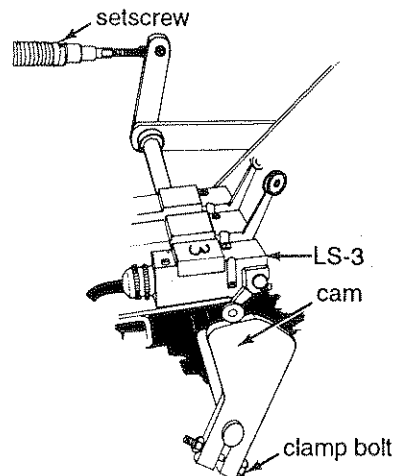

Fig. 64
- (A) Loosen set screw in locking collar, see Fig. 64.
- (B) Slide locking collar on feed sensor guide rod forward to compress spring 1" when the sensor paddle is against the rubber bumper.